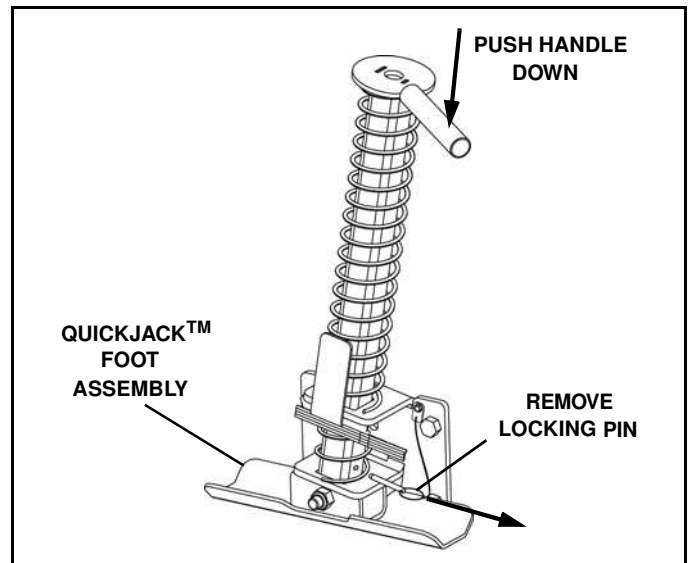

Figure 1-50
3. Remove the QuickJack™ locking pin and push the jackstand handle down to fully lower the foot to the ground. (See Figure 1-50).